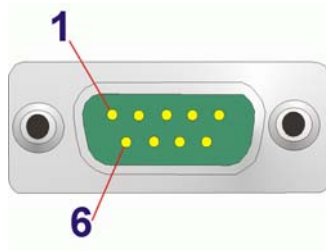

Figure 3-24: Serial Port Pin Location
- CN Pinouts:** See Table 3-25 and Figure 3-24